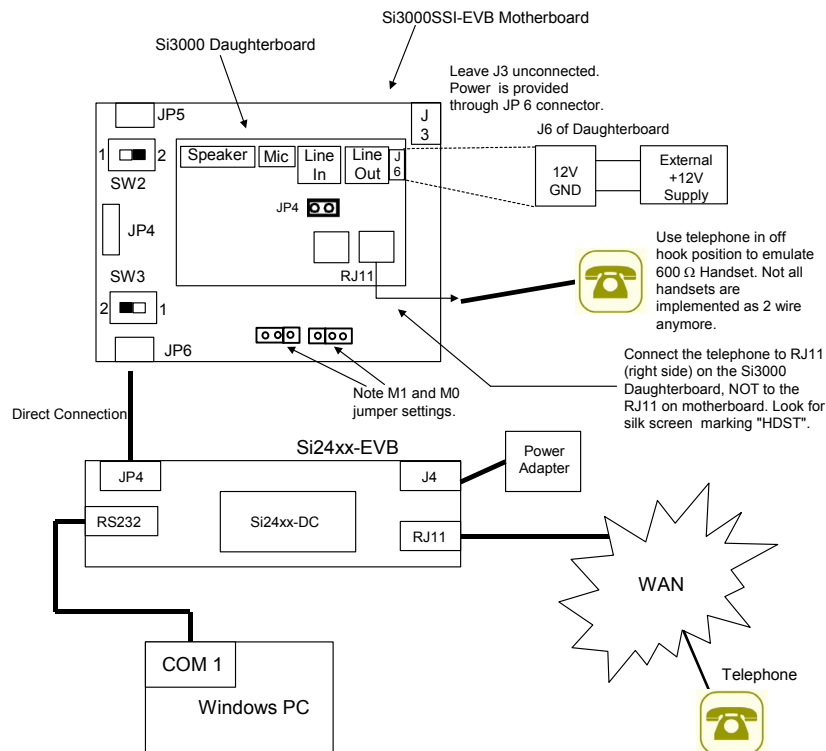

Figure 8. Connection Block Diagram for Si3000SSI-EVB and Si24XXURT-EVB
The block diagram in Figure 8 shows how the two evaluation boards are connected to demonstrate voice mode operation.
1. Connect hardware as shown in Figure 8 on page 9. Note that the Si3000 Evaluation Board requires an external 12 V supply and derives 5 V power from the Si24xx-EVB. The Si24xx-EVB should be connected to the supplied power adapter or powered through USB.